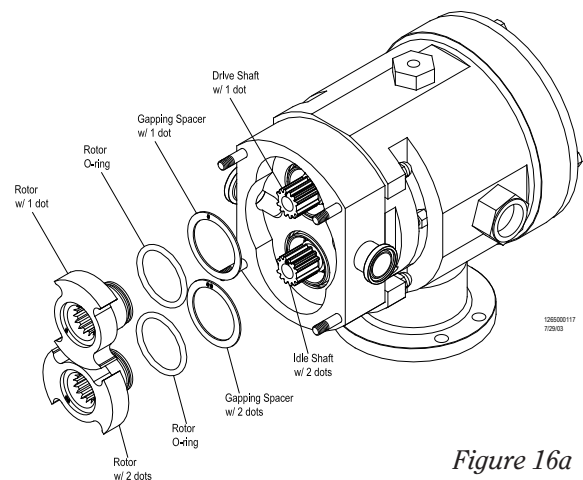

Figure 16a
- b) Install the gapping spacer and rotor on to the appropriate shaft. Install the rotor with one dot onto the drive shaft and the rotor with two dots onto the idle shaft (*Figure 16a*).